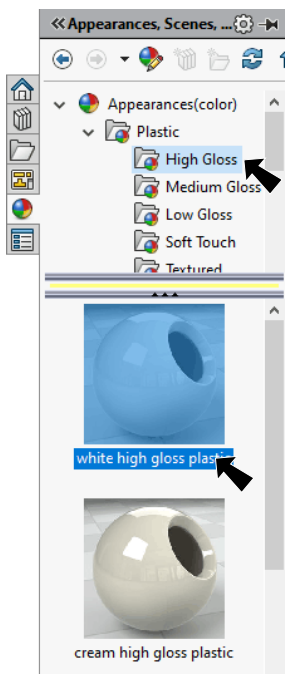

Fig. 14
Step 2. In the Appearances Task pane, expand **Plastic**, click **High Gloss** and in the lower pane select **white high gloss plastic**, Fig. 14.